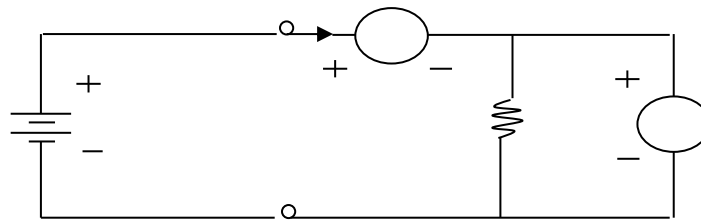

Figure 4 -1
1. Connect the circuit in Figure 4 -1 with $R = 1$ k Ω .